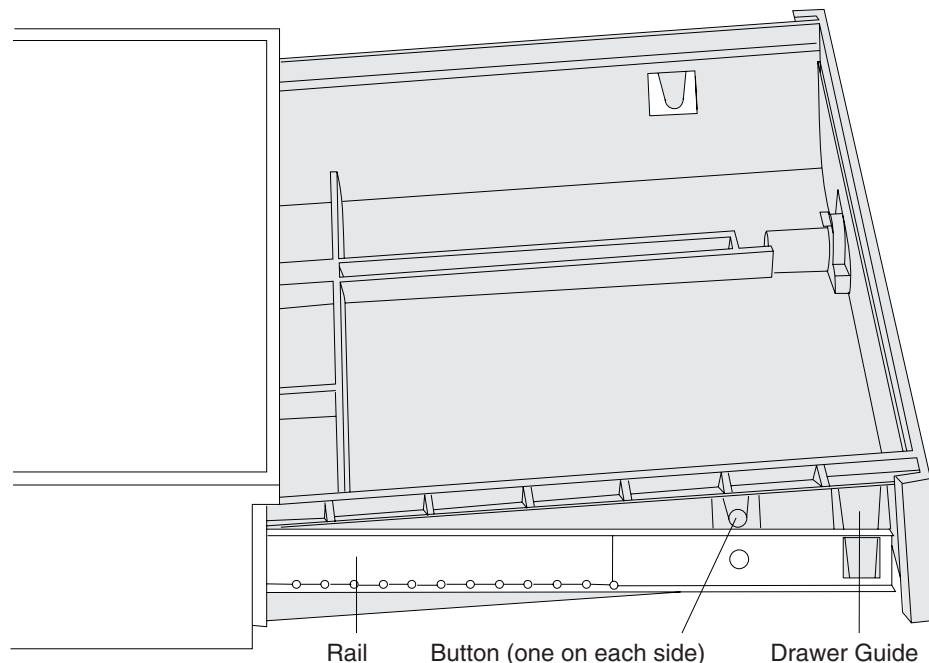

Figure 81. Removing and replacing a full size cash drawer
8. Push in on the buttons in the rails, as shown in Figure 81 on page 106, and pull up on the front of the drawer until the drawer is free from the slides. Pull the drawer forward out of the base.
3. Position the rear of the drawer into the slides so that the drawer guide on each side of the drawer aligns with the corresponding opening on each side, as shown in Figure 81.